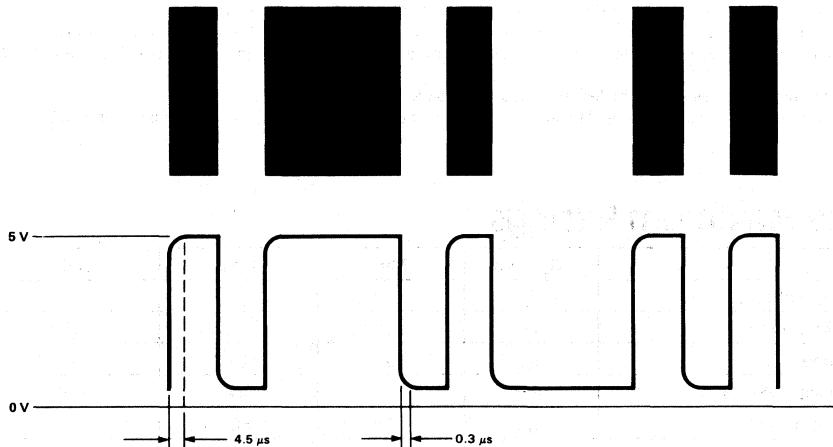

Figure 1. Typical Output Waveform
A non-reflecting black bar results in a logic high (1) level output, while a reflecting white space will cause a logic low (0) level output (see Figure 1). The initial state will be indeterminate. However, if no bar code is scanned, after a short period (typically less than 1 second), the wand will assume a logic low state. This feature insures that the first bar will not be missed in a normal scan, and allows for combining several wands by simple parallel wiring.
7. 10% to 90% transition. 1 k Ω pull-up resistor. See Figure 1.